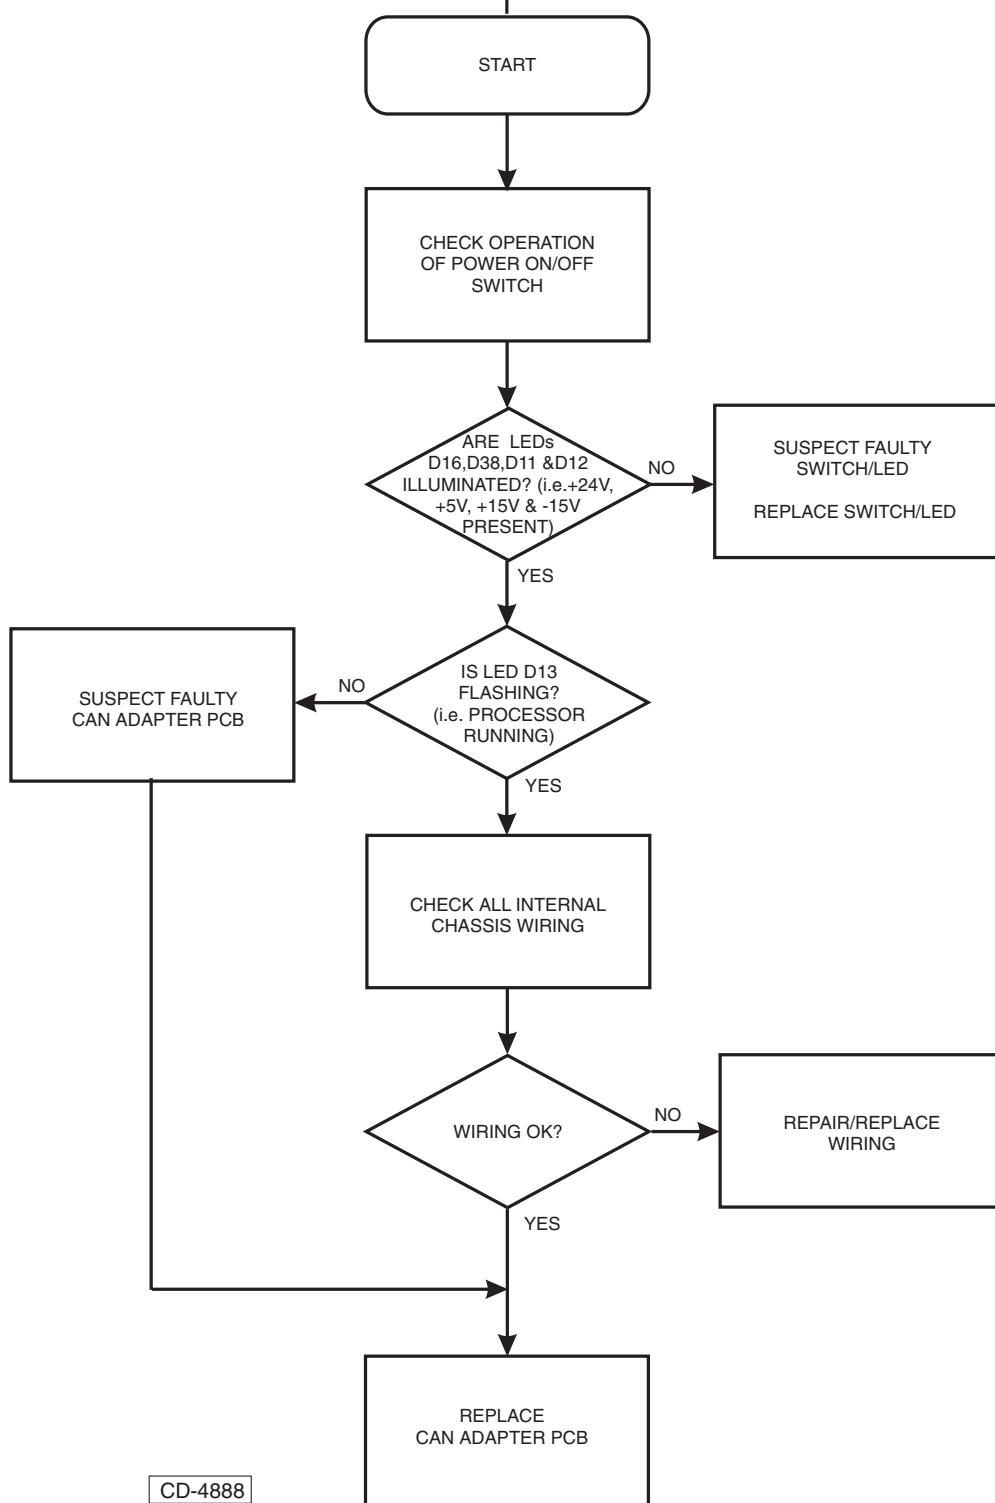

Figure 7d - Transmitter Interface Unit: Fault Finding Algorithm
- 44 A diagnostic algorithm is shown in Figure 7d, to provide the operator/technician with a step by step guide through the fault finding procedure. The algorithm is intended for identification of faults to LRM level (e.g. A faulty cable/connector assembly).